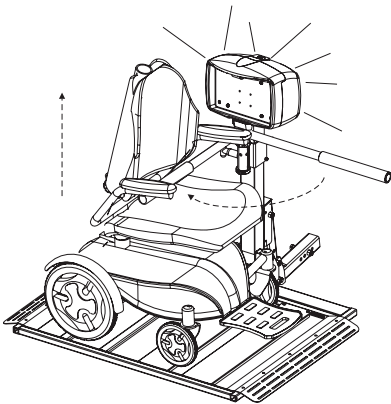

Figure 6-11
2. Raise the platform to top of travel until the motor clutches. *See Figure 6-11.*